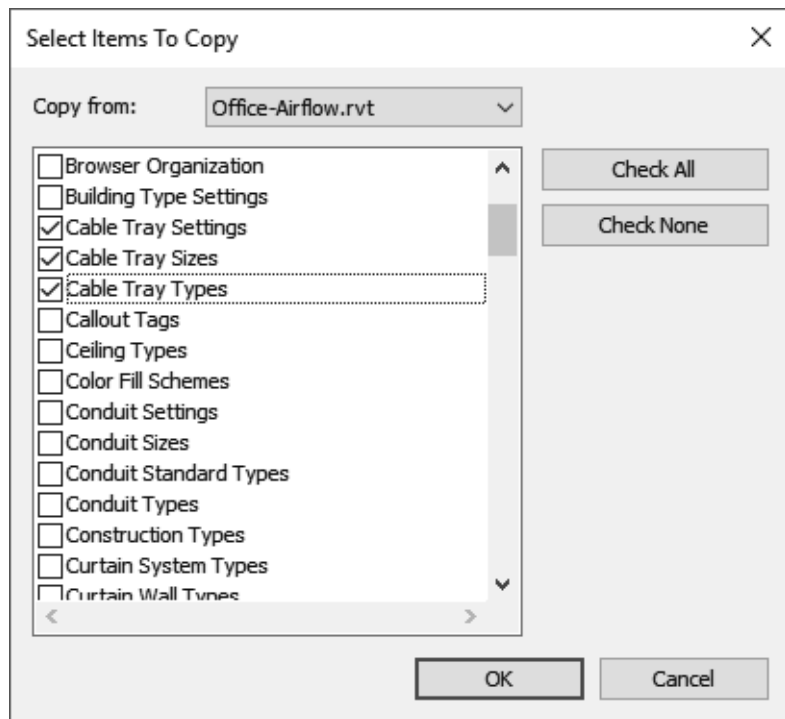

Figure 1–17
5. Select the items you want to copy into the current project, as shown in Figure 1–17. Then, click **OK**.